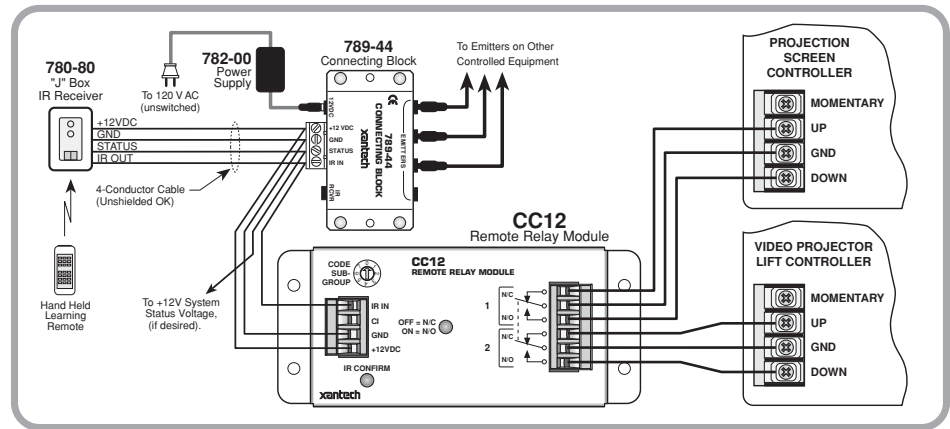

Fig. 5 Connections for Execution of Paired Commands
To overcome the possibility of incorrect synchronization, a method utilizing separate UP/DOWN **paired** commands is illustrated in **Fig. 5**.
- **Fig. 5** assumes that the screen, projector lift, motorized drapes, etc., have inputs that will execute the desired action with constant ON or **maintained** switch closures.